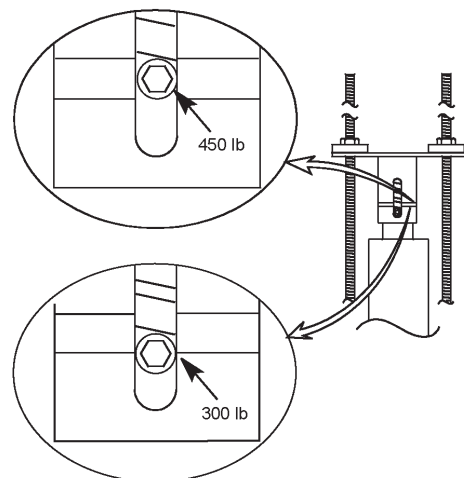

Figure 12: Sensor Load Indicators
4.7.5 A load is now applied at the top of the sensor forcing the bottom of the sensor to seat against the far wall. This keeps the sensor firmly in place against the far wall of the pipe. The amount of load is indicated by the two lines and set screw at the top of the sensor. See Figure 12. The bottom line indicates a 300-lb. load.